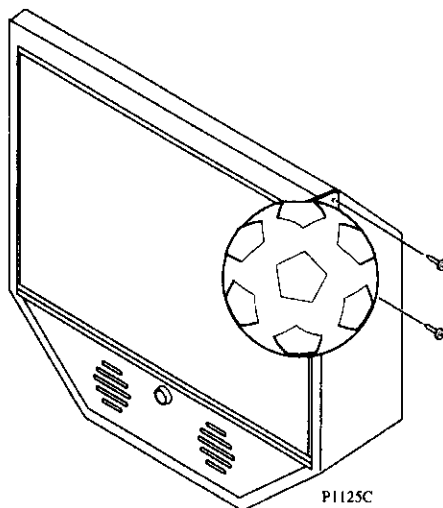

FIGURE 6C: INSTALLING SOCCER BALL TO BACKBOX
Find the two (2) #8 self tapping torx screws, included in the parts bag. Start the screws into the soccer ball at the "dimple" locations. Fasten the soccer ball mounting plate to the backbox. (see Figure 6C).